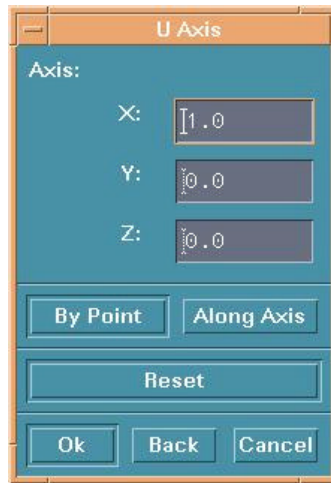

Figure 10.11.3 U Axis Definition
- Select BY POINT or ALONG AXIS from the U/V/W AXIS dialog (Figure 10.11.3) to define the axis. If BY POINT is selected, select a point in the display window to define the vector for the desired axis. If ALONG AXIS is selected, a dialog is displayed. The choices are ALONG X, ALONG Y, ALONG Z, ALONG U, ALONG V, ALONG W in the next dialog window select one and then DONE.